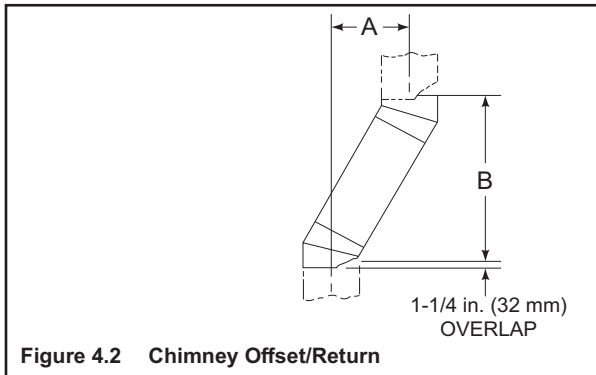

Figure 4.2 Chimney Offset/Return
- Measure the shift needed to avoid the overhead obstruction. Refer to dimension A in Figure 4.2.
Your “A” dimension from Figure 4.2 is 14 1/2 in. (368 mm). Using Table 4.3 the dimension closest to, but not less than 14 1/2 in. (368 mm) is 15 3/4 in. (400 mm) using a 30° offset/return.